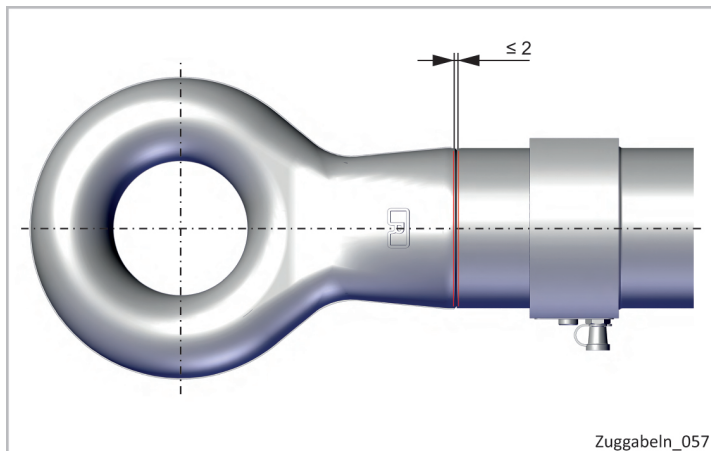

Figure 32: Maximum clearance of BNA towing eye
- ▶ Check the clearance regularly, see Fig. 32.